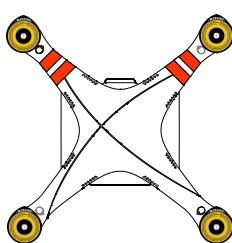

Figure 2-1
- (Figure 2-1) Remove the four warning cards from the motors after you've read them.